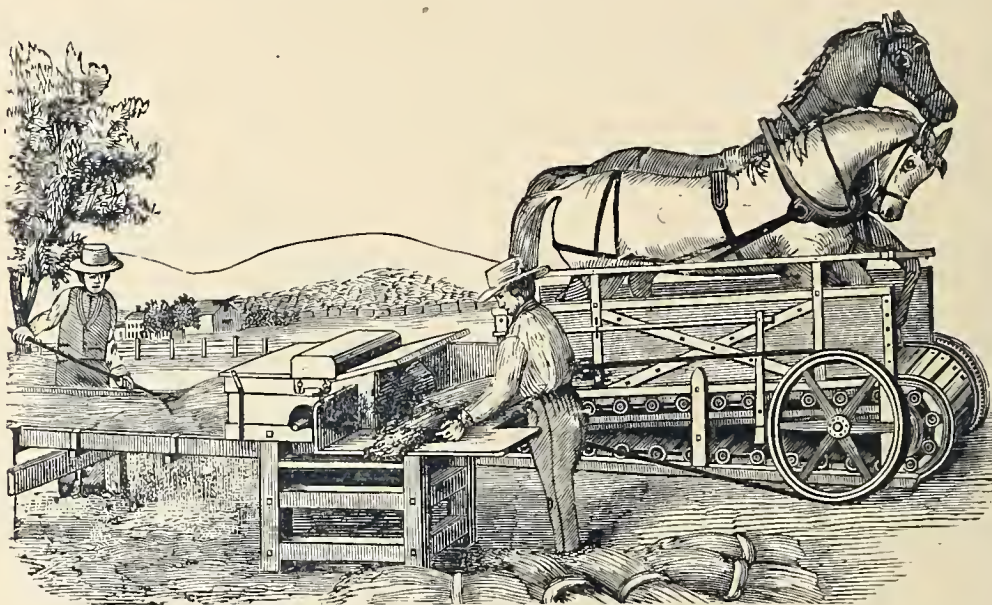

Fig. 400. — Thresher and Separator.
*The Overshot Thresher with Separator Attachment*, represented by *Fig. 400*, threshes the grain, and separates the straw, and delivers it ready for stacking from the end of the separator, the grain and fine chaff falling through the openings upon the floor or ground under the same. The grain and chaff are often removed by